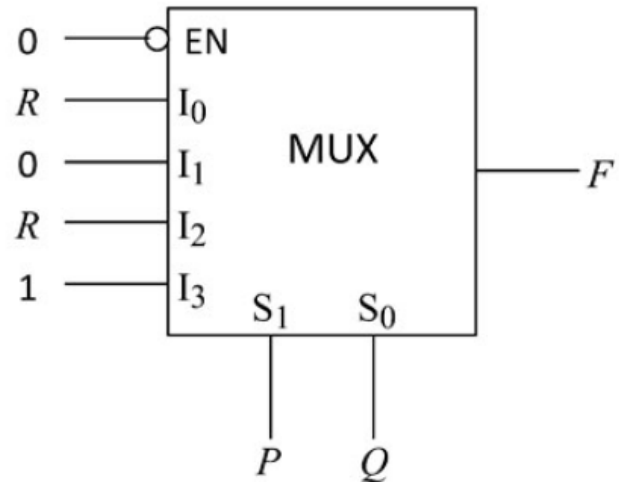

Fig. 4.9
14. Fig. 4.9 below shows a multiplexer where  $S_0$  and  $S_1$  are the select lines,  $I_0$  to  $I_3$  are the input lines,  $EN$  is the enable line and  $F(P, Q, R)$  is the output. Find the boolean expression for output  $F$  as function of inputs  $P, Q, R$  using K-map. (GATE EC 2020)